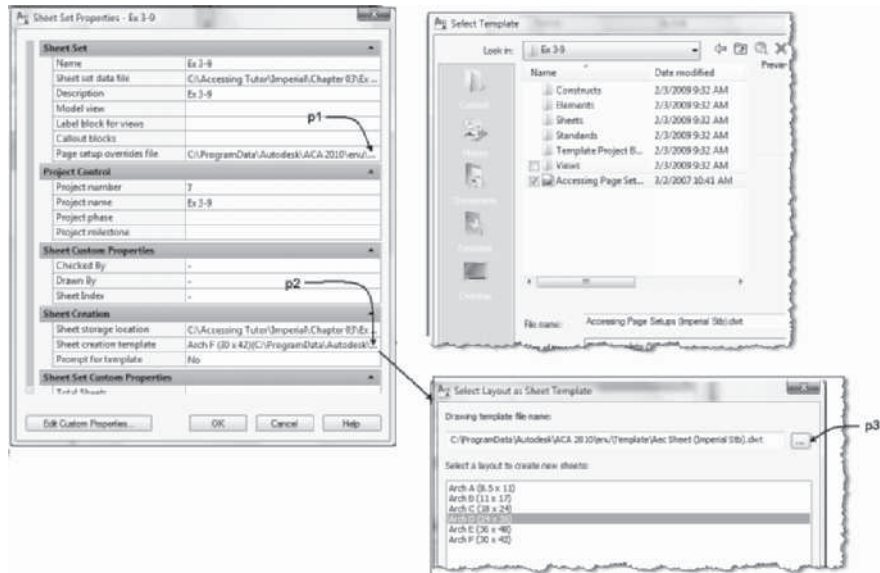

FIGURE 3.104 Setting Sheet Set Properties
7. Select the Sheets tab. Verify that the Sheet Set view is displayed, select the Ex 3-9 sheet set title, right-click, and choose **Properties** to open the Sheet Set Properties dialog box as shown in Figure 3.104.
8. To specify the location of the template file for page setup overrides, click the right margin shown in Figure 3.104, **p1** of the **Page setup overrides file** field to display the Browse button. Click the Browse button to navigate to your student folder\Ch 3\Ex 3-9 and select Accessing Page Setups (Imperial Stb).dwt or Accessing Page Setups (Metric Stb).dwt. Click **Open** to dismiss the dialog box.
9. In this step, you specify a default template for all sheets. Click the right margin of the **Sheet creation template** field shown in Figure 3.104, **p2** of the **Sheet Set Properties** dialog box to display the Browse button. Click the Browse button to open the **Select Layout as Sheet Template** dialog box. Verify that the sheet template is *Aec Sheet (Imperial stb).dwt /Aec Sheet (Metric stb).dwt*. If necessary, choose the Browse button at **p3** and navigate to *Vista - C:\ProgramData\Autodesk\ACA 2011\enu\Template folder*.
10. Select **Arch D (24 × 36) [ISO A1 (594 × 841)]** from the layout list as shown in Figure 3.104. Click **OK** to dismiss all dialog boxes. Click *Apply changes to all nested subsets* in the **Sheet Set – Confirm Changes** dialog box.